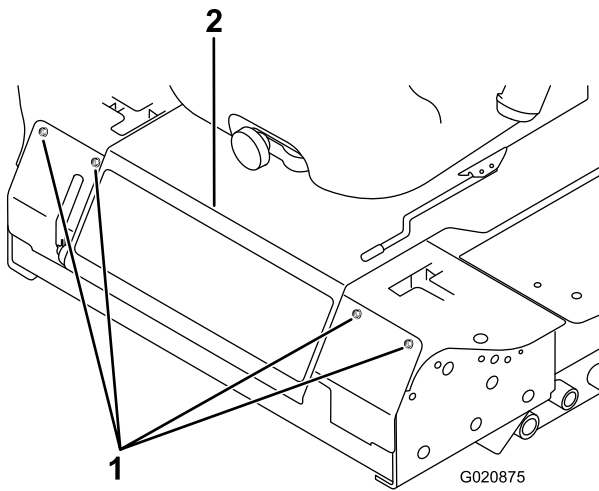

Figure 52
3. Remove the bolts securing the front panel and remove the panel (Figure 52).